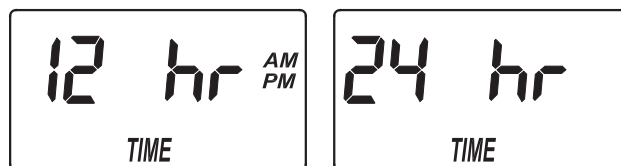

FIG. 22
1. If you completed the previous step, the 12/24 hour clock setting screen should show in the display (See Figure 22). Otherwise, press and hold for 3 seconds the SELECT button, until the display shows "000 - -", then press the SELECT button three times to display the 12/24 hour clock setting screen.